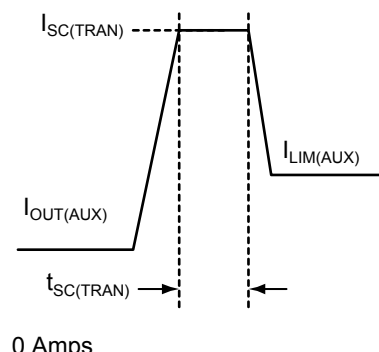

Figure 5. VAUX Current Limit Response Timing
| $T_{\text{SC}(TRAN)}$   | V AUX Current Limiter Response Time, Figure 5  | V AUX [A/B] = 0V (6)  |   | 33                               |             | μs                    |